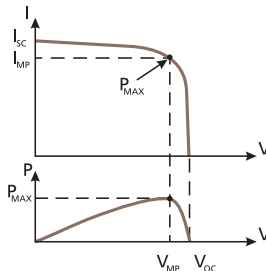

Fig. 2.8. Current (I), Voltage (V) and Power (P) Curves
A Current (I) versus Voltage (V) Curve of a PV / Solar Module (“I-V” Curve) shows the possible combinations of its current and voltage outputs. A typical I-V curve for a 12 V Module is shown in Fig. 2.8.